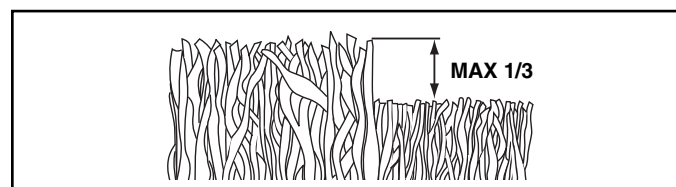

FIG. 15
- For best results, adjust the lawn mower cutting height so that the lawn mower cuts off only the top one-third of the grass blades (See Fig. 15). If the lawn is overgrown it will be necessary to raise the height of cut to reduce pushing effort and to keep from overloading the engine and leaving clumps of mulched grass. For extremely heavy mulching, reduce your width of cut by overlapping previously cut path and mow slowly.